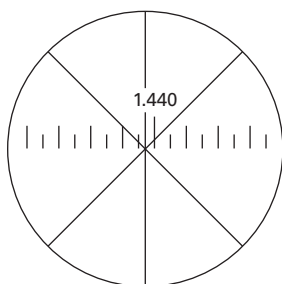

FIGURE 29.4 A refractive index of 1.4397.
8. Press and hold the scale/sample field switch. The refractive index scale should appear (Fig. 29.4). Read the uppermost scale, the refractive index, to four decimal